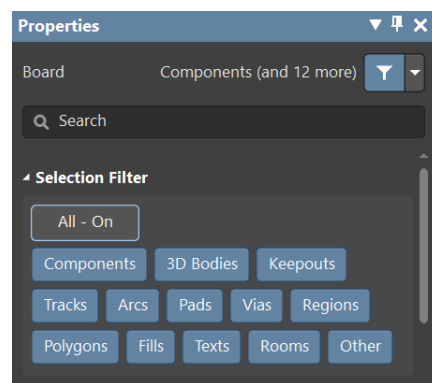
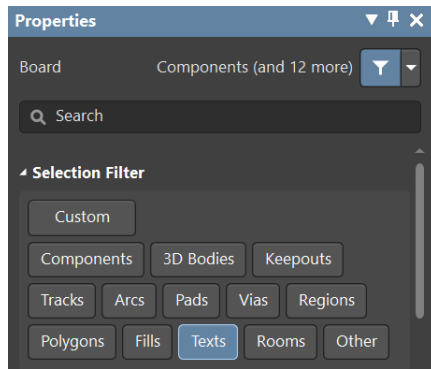
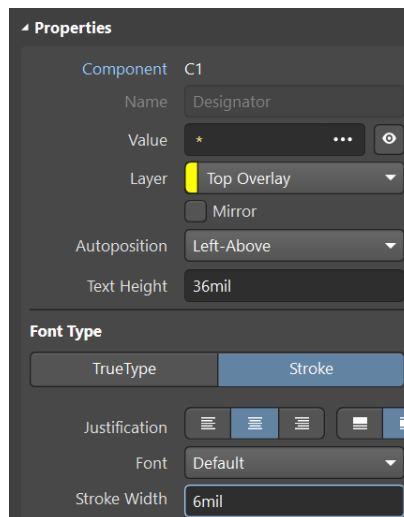

Figure 20: Screenshot of default selection filter
Figure 21: Screenshot of selection filter set for texts only
Figure 22: Screenshot showing text adjustment in properties
- Another useful trick is to use the selection filter. Let's say you only want to change the size of the text (because maybe it is distracting and large, which it often is by default). Instead of having to go around selecting every piece of text, you can simply use the selection filter to select only text. Go into the bottom right corner of your Altium screen and select **Panels** then **Properties**. At the top, you should see something like in Figure 20, which has every object type in blue showing that they could all be selected. Select the **All-On** button in the Selection Filter to turn all of the objects grey (meaning that none of them can be selected on the board). Click on your desired objects (in this case, Texts) and they should turn blue again. This means you can select them on the board. Use Ctrl+A to easily select all of the text now. Figure 21 shows how to set the Selection Filter for texts only. With all of the text selected, you can even change the size of all of the text at once, as shown in Figure 22. I like to set my text size to a **text height of 36 mil** and a **stroke width of 6 mil**. This works for JLCPCB, which is the company we usually order boards from.